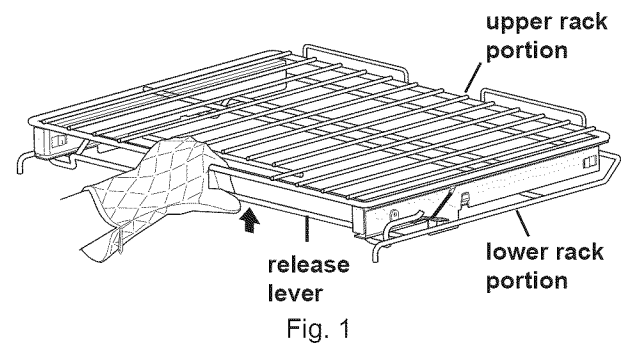

Fig. 1
**To remove** - Using one hand, reach through handle opening and lift up on the release lever located across the lower front of the rack as shown in Figure 1.